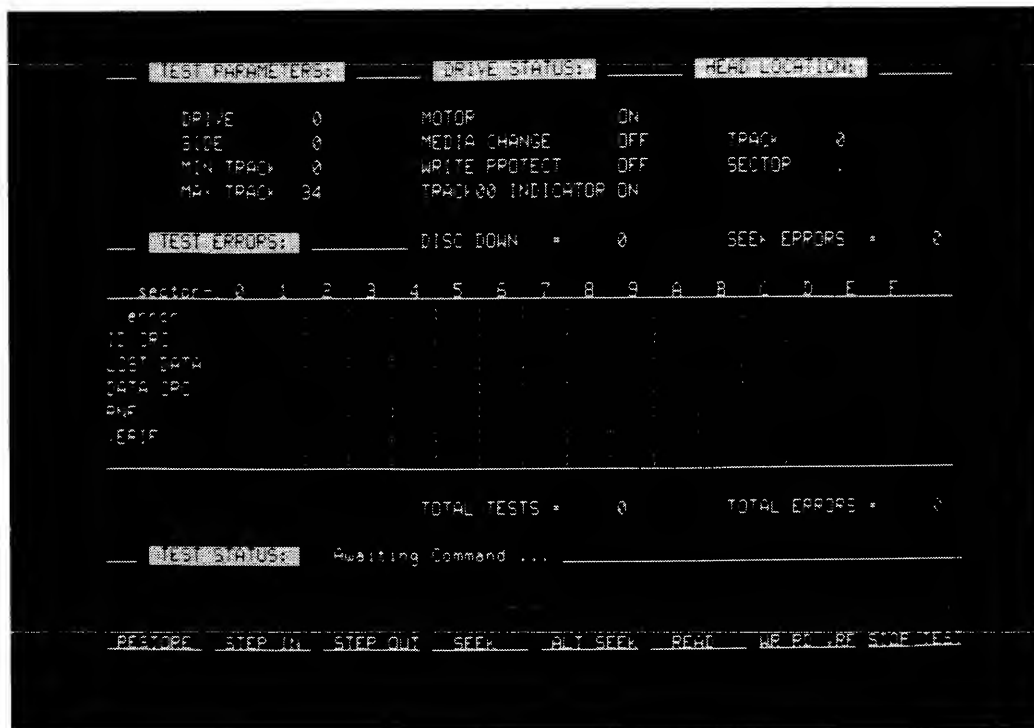

Figure 4-3. Floppy Disc Diagnostic Display
- c. Press the DIAG soft key. Figure 4-3 should be displayed.